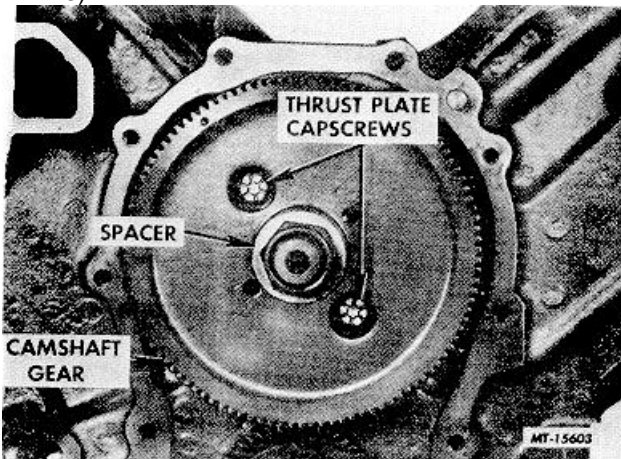
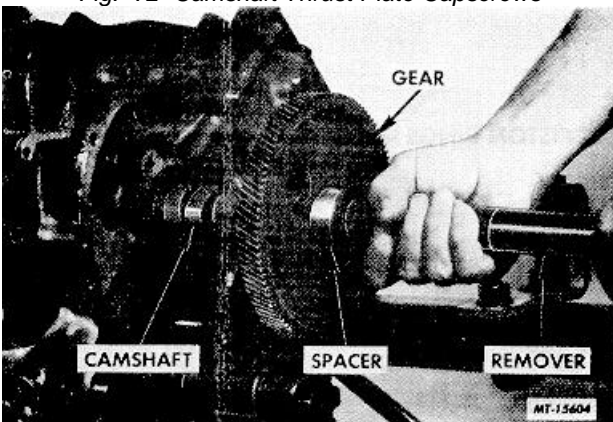

Fig. 72 Camshaft Thrust Plate Capscrews
Fig. 73 Removing Camshaft, Gear and Spacer as an Assembly
65. Remove camshaft thrust plate capscrews (Figure 72). Remove camshaft gear nut. Install removal tool SE-1880 on threads of camshaft and remove camshaft, gear and spacer as an assembly (Figure 73).